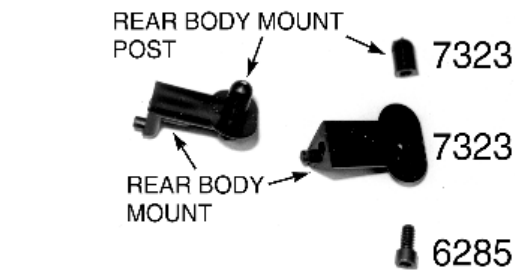
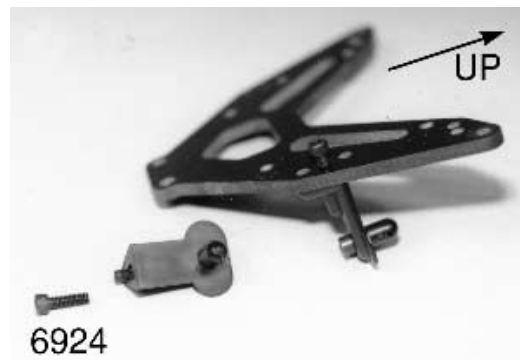

Fig. 83
Fig. 84
□ **Figs. 82, 83 & 84** (1) In bag #7-4 you will find the #7352 black fiberglass rear shock strut. (2) Now go back to bag #7-5 and remove the two #7323 rear body mounts and two #7323 rear body mount posts, two #6285 4-40 x 1/4" SHScrews, and two #6924 4-40 x 3/8" SHCScrews. (3) Trim the four #7323 body mount parts from the mold runner if they are still attached. (4) Use the #6285 screws to mount the small round rear body mount posts to the rear body mounts as shown in fig. 83. (You can use one of the #6332 body hood pins from bag #7-5 to hold the round post while you tighten the mounting screw.) There are not a lot of threads, so be careful not to overtighten. (5) Do the same for the second mount. The body pin holes should point to the left and right when mounted on the truck. (6) On each side of the #7352 rear shock strut (near the middle) you will see three vertical holes (see fig. 82). Place the body mounts on the strut so that the small locator pin on the mount fits into the bottom hole of the shock strut and the body mount is facing up. This side will now be the back of the shock strut. Thread the #6924 screws through the center holes from the front side as shown in fig. 84. Go ahead and attach the second mount on the other side of the shock strut.